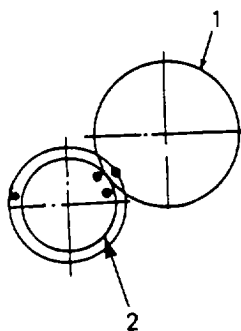

Figure 6-15. Timing Marks
- c. Refer to Figure 6-15. Align timing marks on the cam gear (1) and crank gear (2).